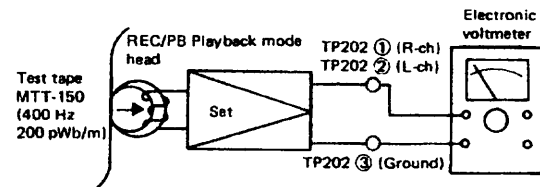

Figure 22-3
- Make connection of instruments as shown in Fig. 22-3, and adjust variable resistor VR201 or VR202 so that the playback sensitivity is as shown in Table 22-3.